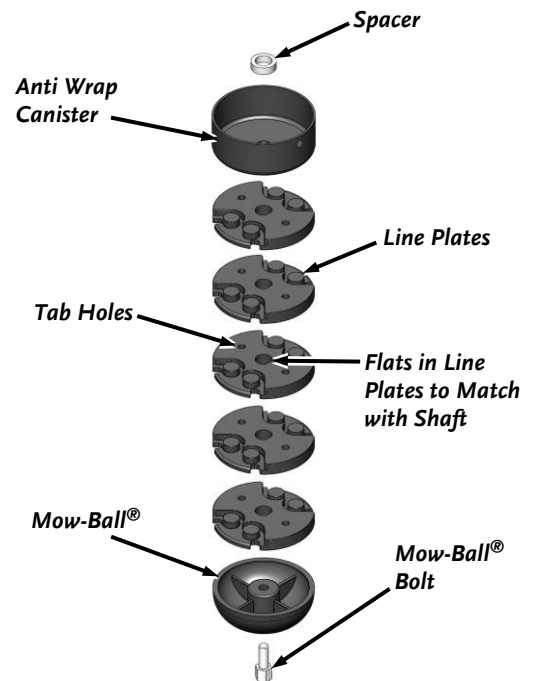

Figure 19
5. Slide the Line Plates, Anti Wrap Canister and Spacer off the Shaft (**Figure 19**).
Improper installation can cause damage to the trimmer bearings. Follow these directions carefully to protect your machine from damage. Reassemble the components in the order shown in **figure 19**.
1. Place the Spacer and Anti Wrap Canister (with the lip facing up) onto the Shaft (**Figure 19**).